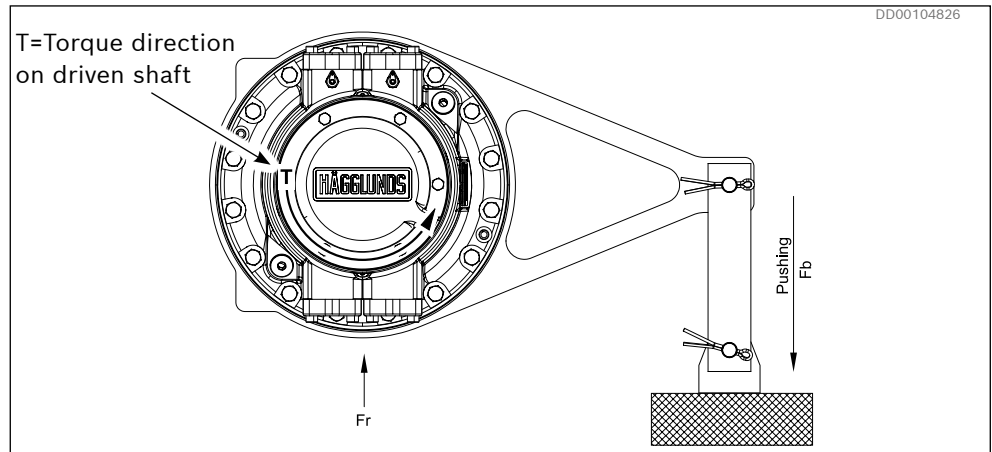
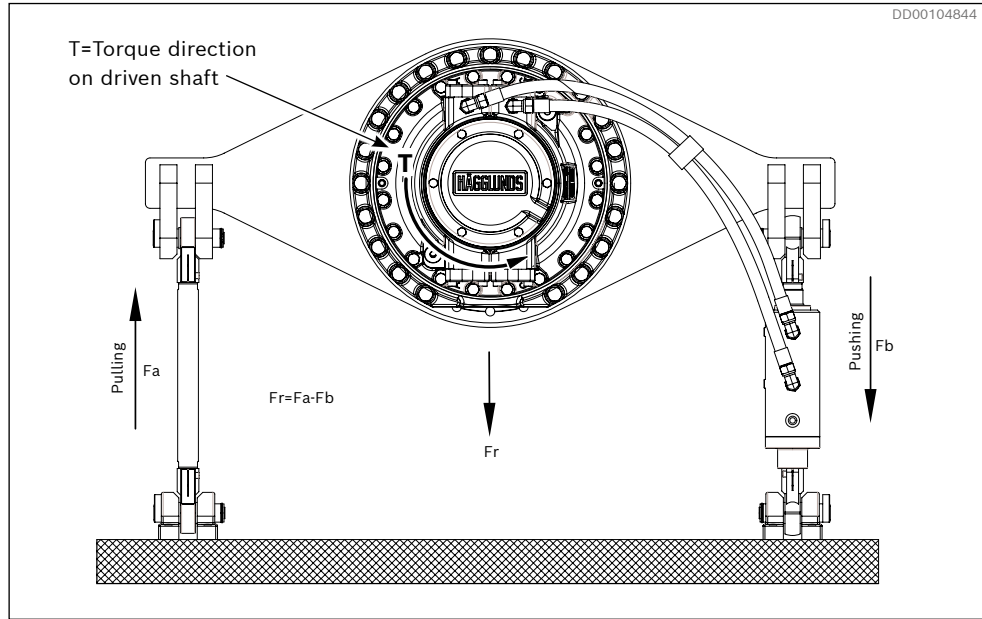

Fig. 21: External forces Fr, Fb for TC A
Fig. 29: External forces Fr, Fa, Fb for DTCA
2. Oil the screws (1).
3. Make sure that the foundation can withstand the forces from the torque arm (see *Fig. 21*, *Fig. 29*, *Table 9* and *Table 12*).
6. Tighten the screws (1) to the torque stated in *Table 7*.
- ▶ Make sure the foundation and the customer machine can withstand the forces from the torque arm. See *Fig. 21*, *Fig. 29*, *Table 9* and *Table 12*.